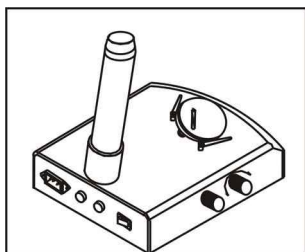

Fig. 11
- 4) Recover the stage plate (Fig. 11)